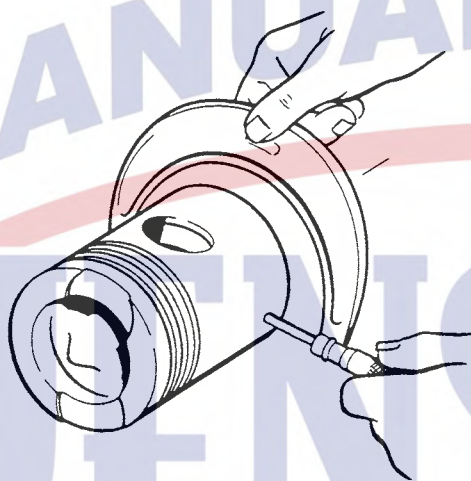

Figure 17
- Using a micrometer, measure the diameter of the piston across the thrust faces at the bottom of the pistons, perpendicular to the piston pin hole, Figure 17. If this measurement is less than 3.9340" (201G), 3.8090" (188G), 3.4983" (159G) or 3.3735" (148G), replace the pistons.